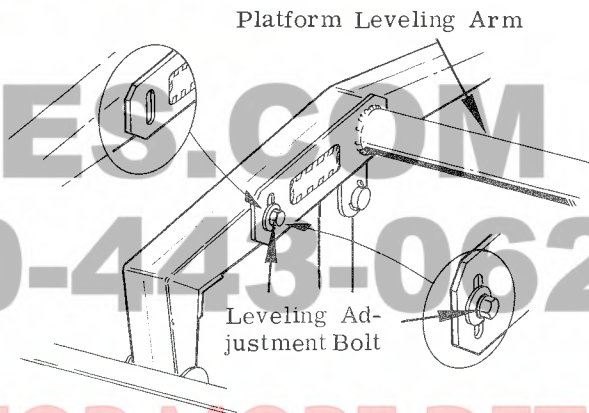

FIGURE 23
2. If each end of the platform is not an equal height, loosen leveling adjustment bolt and level platform from right to left and retighten bolt. See fig. 23.
3. REMOVE BOLT FROM PLATFORM LEVELING ARM when cutting on the ground. When the bolt is removed, radial platform flotation lets the header follow ground contour. See figure 23.